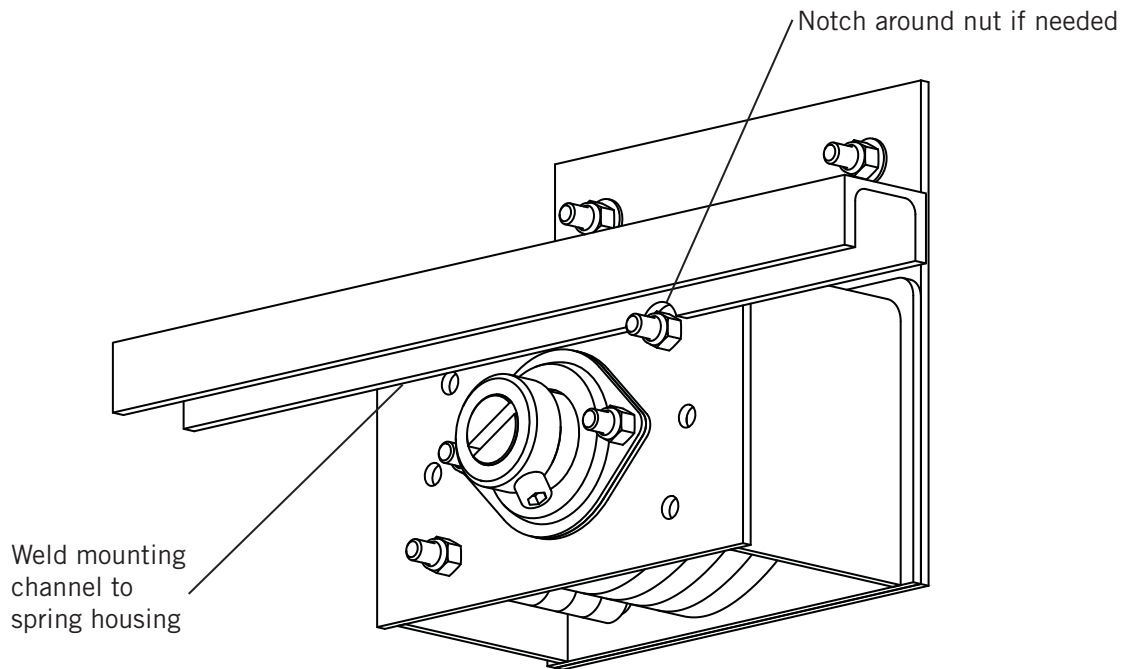

Figure 8
8) See **Figure 8**. At the back of the spring find a location to mount the mounting channel bearing 18" (3).